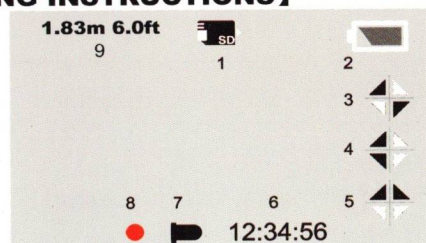

**Figure 20. Install the wheel assembly**
**7. Install The Wheel Assembly (See Figure 20)**